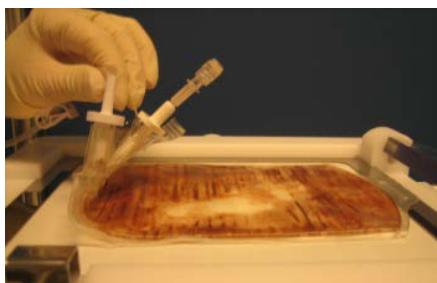

Figure 13 Flush Dynabeads™ magnetic beads from the outlet ports
5. Lift the primary bag in front to ensure that the Dynabeads™ magnetic beads are flushed from the outlet port and toward the magnet surface (Figure 13).